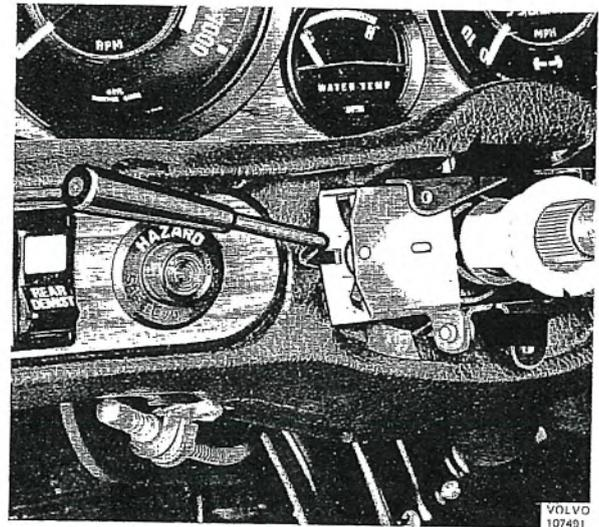

Fig. 3-101. Removing directional indicator lever switch
The directional indicator lever switch, see Fig. 3-101, which has automatic parking, is placed under the plastic cover on the steering column.
3. Unscrew the two screws holding the switch in position, see Fig. 3-101.